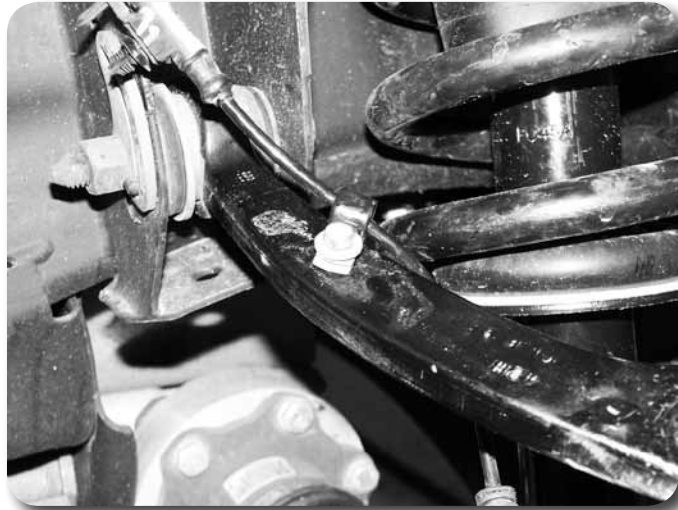

Figure 38
68. Attach the ABS line to the upper control arm with the original brake line mounting bolt and provided wire clamp **Figure 38**.